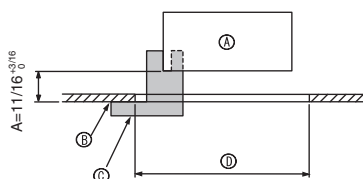

Fig. 9-2
①	Grille	1	950 × 950 (mm), 37-3/8 × 37-3/8 (inch)
②	Screw with captive washer	4	M5 × 0.8 × 25
③	Gauge	1	(Divided into four parts)
④	Fastener	3
⑤	Screw	4	4 × 8
⑥	Screw	1	4 × 12
9.2. Preparing to attach the grille (Fig. 9-2)
- With the gauge ③ supplied with this kit, adjust and check the positioning of the unit relative to the ceiling. If the unit is not properly positioned relative to the ceiling, it may allow air leaks or cause condensation to collect.
- Ⓒ Gauge ③ (inserted into the unit)